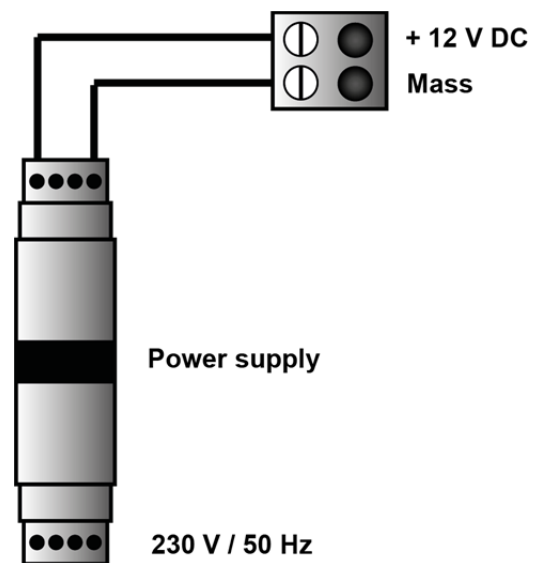

Fig. 11: Local power supply
- If a power supply via Ethernet is not available, an external mains adapter can be connected to supply the device (Fig. 11).